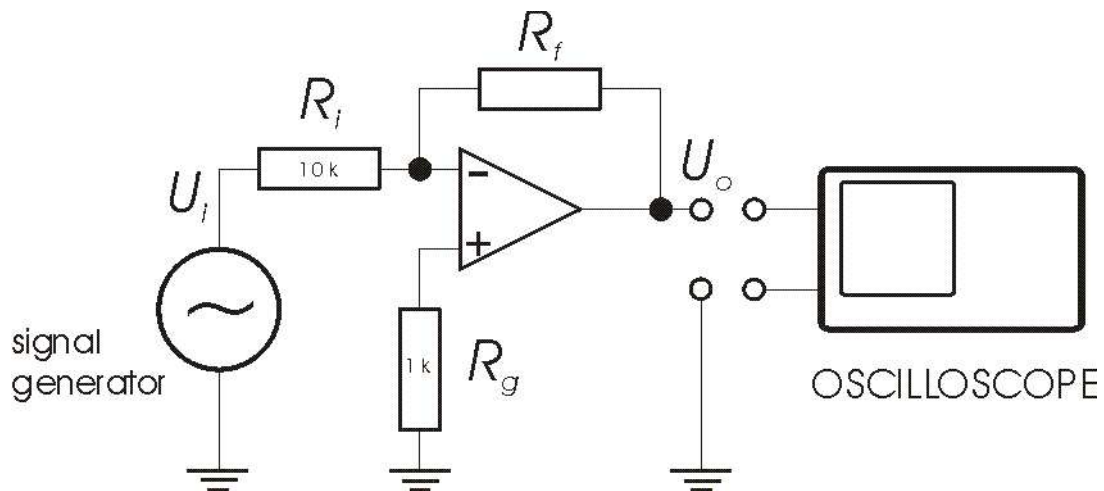

Figure 2 Diagram of the circuit to be constructed
1. Set up the circuit as shown in Figure 2: